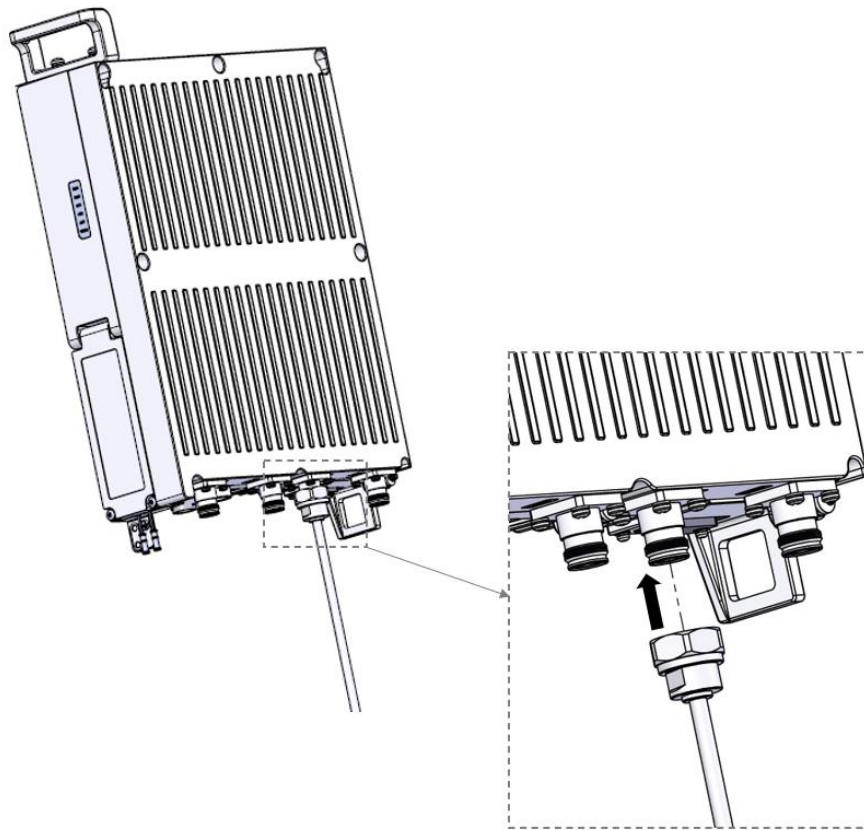

Figure 4-22 Installing the RF Jumper
Step 1: Install the 4.3-10 connector on the ORRU RF jumper to the ANT port and use a torque wrench to tighten the connector as shown in Figure 4-22.